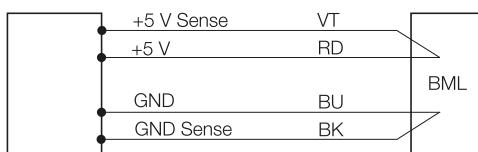
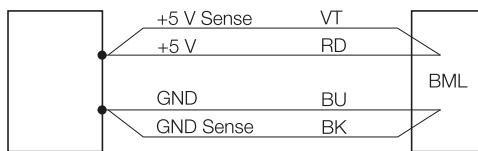

Fig. 4-4: Power supply with sense line
Fig. 4-5: 5-V power supply without sense line
- i** While operating at 5 V, the operating voltage must be $5 \text{ V} \pm 5\%$. To compensate for voltage drops in the supply, we recommend using a regulated power supply with sense input (Fig. 4-4). If this is not possible or desired, integrate the sense lines of the 12-wire cable (not with 8-wire cable BML-...-KF...) parallel to the +5 V and GND lines (Fig. 4-5).